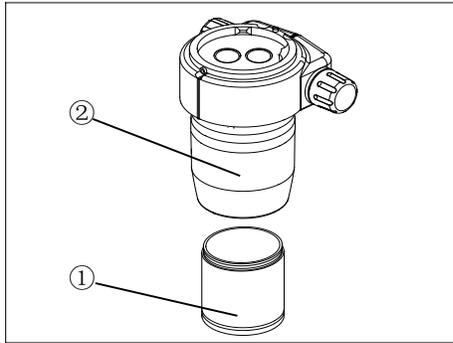
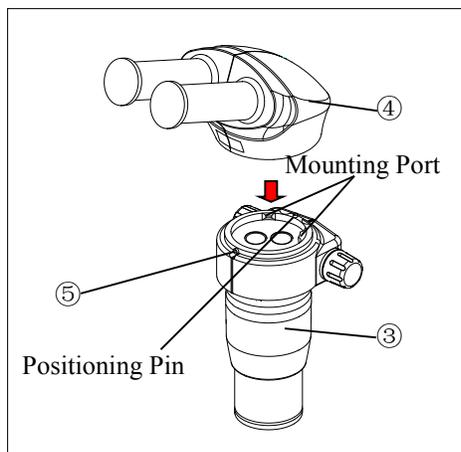

Fig.1
Fig.2
### 2.2.1. Mounting binocular viewing head (Fig.1, Fig.2)
1. Rotate the objective ① into the objective mount thread on the lower end of the zoom body. ②, as ③ in fig.2.
2. Aligning the positioning pin of the zoom body ③ to the positioning groove on the binocular viewing head ④, insert the dovetail mount at the bottom of the viewing head into the mounting port on the zoom body ③, and tighten the viewing head clamping screw ⑤ with provided hexagonal driver.